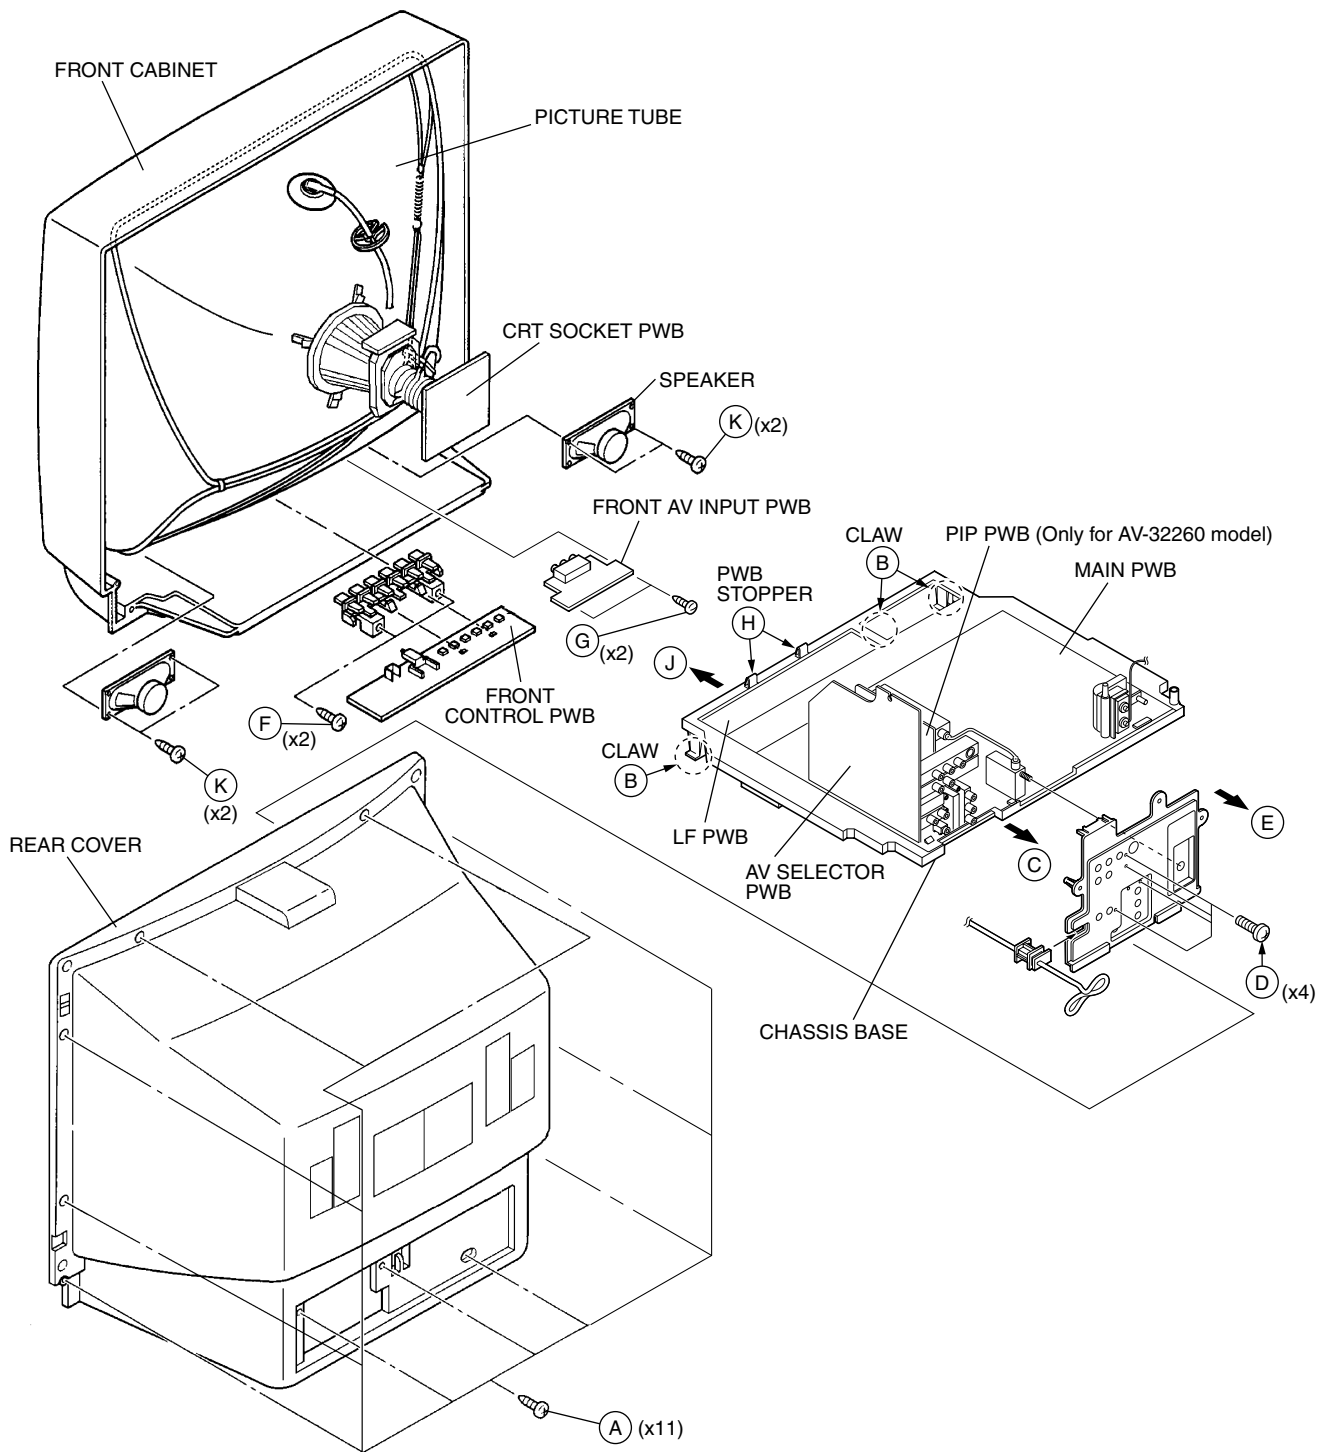

Fig.1
2. Remove the 11 screws marked (A) as shown in Fig.1.
1. Slightly raise the both sides of the chassis by hand and remove the 3 claws marked (B) under the chassis from the front cabinet as shown in Fig.1.
2. Withdraw the chassis backward along the rail in the arrow direction marked (C) as shown in Fig.1.
1. Remove the 4 screws marked (D) as shown in Fig.1.
2. When you pull out the TERMINAL BOARD in the direction of arrow marked (E) as shown in Fig.1, it can be removed.
1. Remove the 2 screws marked (F) and the 2 screws marked (G) as shown in Fig.1.
1. Lift the left side of the LF PWB while pressing the 2 PWB stoppers marked (H) in the arrow direction marked (I) as shown in Fig.1.
1. Remove the 2 screws marked (K) as shown in Fig.1.
<p>(7) SERVICE MENU setting Verify what to set in the SERVICE MENU, and set whatever is necessary.(Fig.1) Refer to the SERVICE ADJUSTMENT for setting.</p>